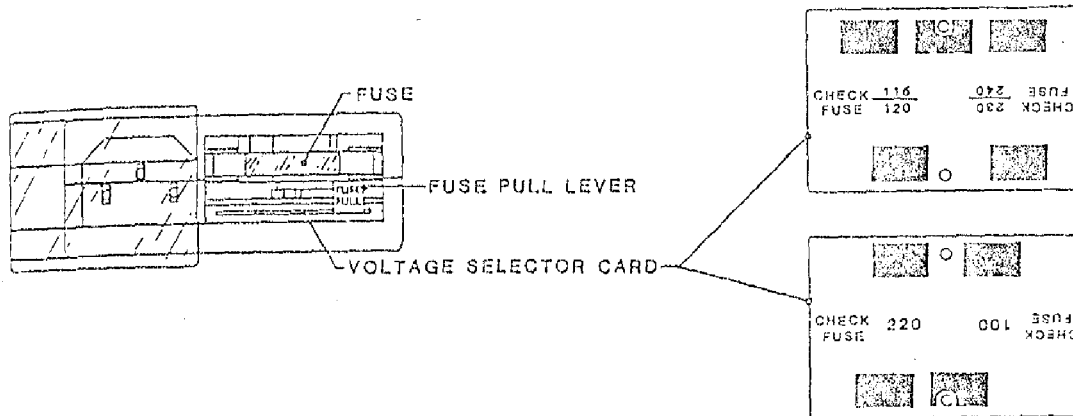

Figure 2-9. Power-In Assembly
The Drive is normally factory-set for 120-volt operation. Other voltage choices can be 100, 220, or 240. Locate the Power-In Assembly (Figure 2-9) at the rear of the unit (Figure 2-6). The Voltage Selector Card behind the plastic slide cover is installed with "120" legible. This indicates that the Drive is set for 120-volt operation. The following subparagraph describes changing this setting as necessary.
- A. Remove the AC power cord (if installed) from the Power-In Assembly (Figure 2-9).